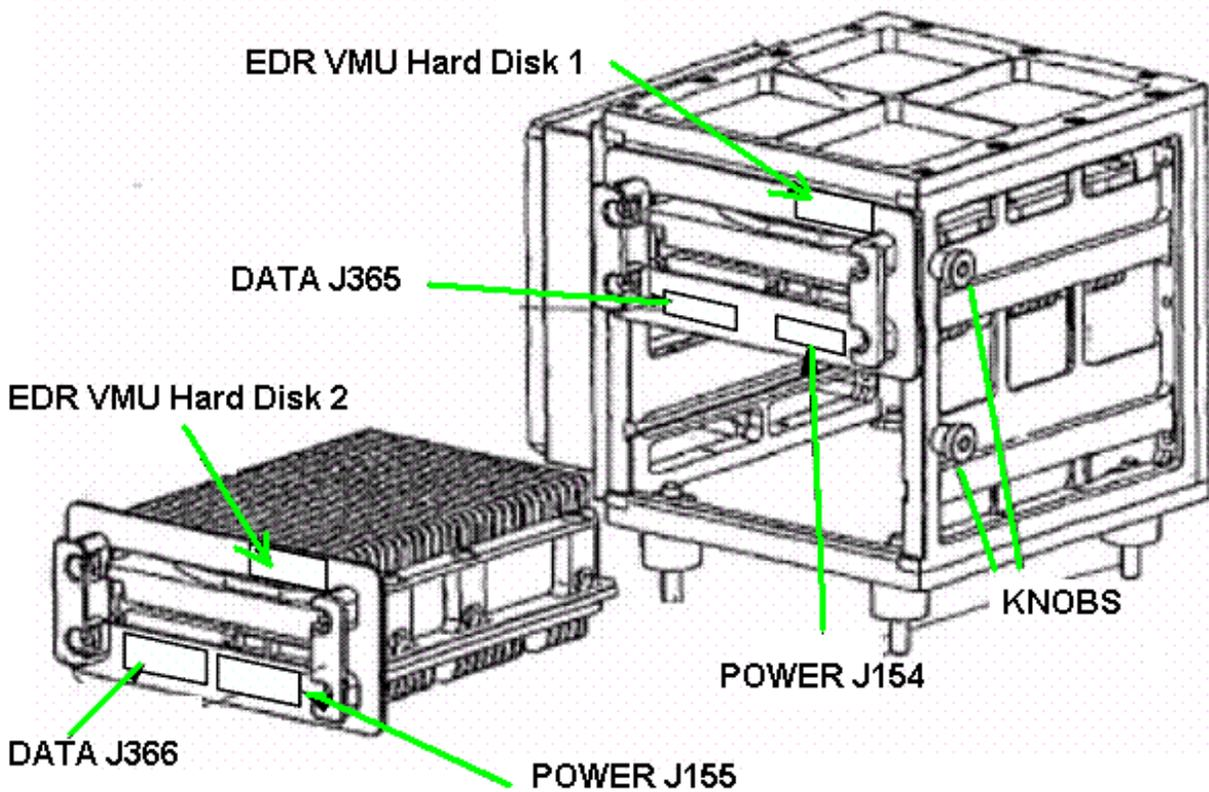

Figure 3. VMU Hard Disks Drawing
- 5.1 VMU Hard Disk 1 (Fig. 3) - insert in slot 1 of VMU Cabinet (pushing the two handles on the front of the HD1)
- 5.2 VMU Hard Disk 2 (Fig. 3) - insert in slot 2 of VMU Cabinet (pushing the two handles on the front of the HD2)
- 5.3 VMU Hard Disks 1 and 2 KNOBS on side VMU Cabinet (Fig. 3) - locked (finger tight)